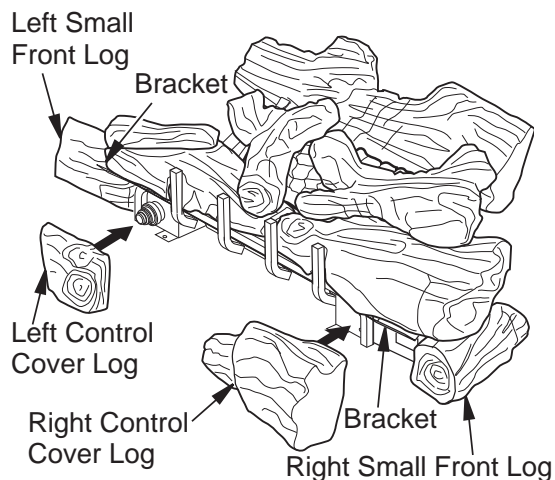

Figure 21 - Installing LBG36SM Model Control Cover Logs
7. For LBG36SM, the front right and left logs are longer and are supported with brackets on each end (see **Figure 21**). Place left and right small front logs under left bracket and beside right bracket.